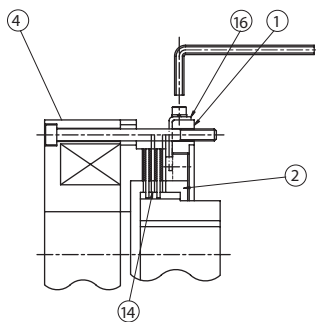

Figure 8-33
- (1) Manually release the brake following the procedure on P71.
- (2) Loosen the stopper [16] on the periphery of the center ring [1], and remove. This will free the gap adjusting screws [2]. (See Figure 8-33)